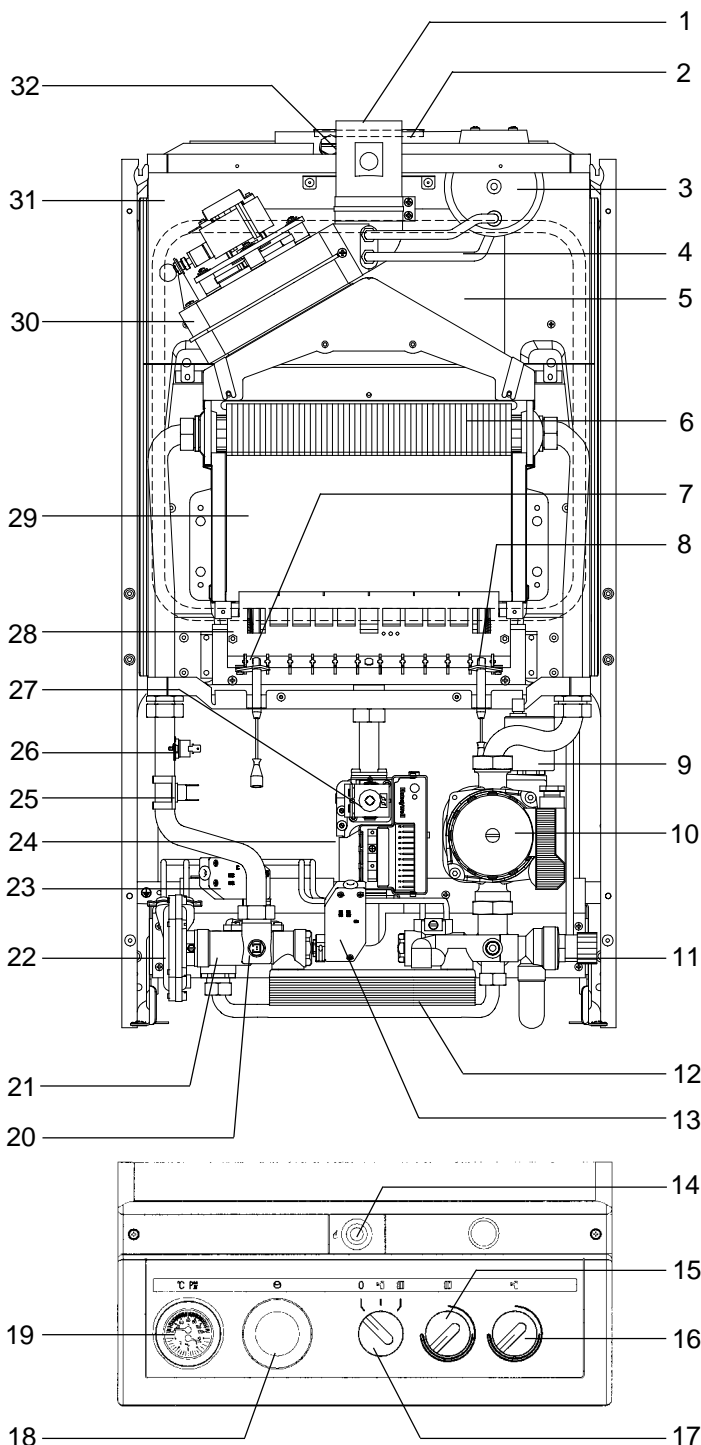

Fig.1 General Layout
- 2.1 Fig.1 illustrates the general layout of components. Fig.2 illustrates the operating principles described below.